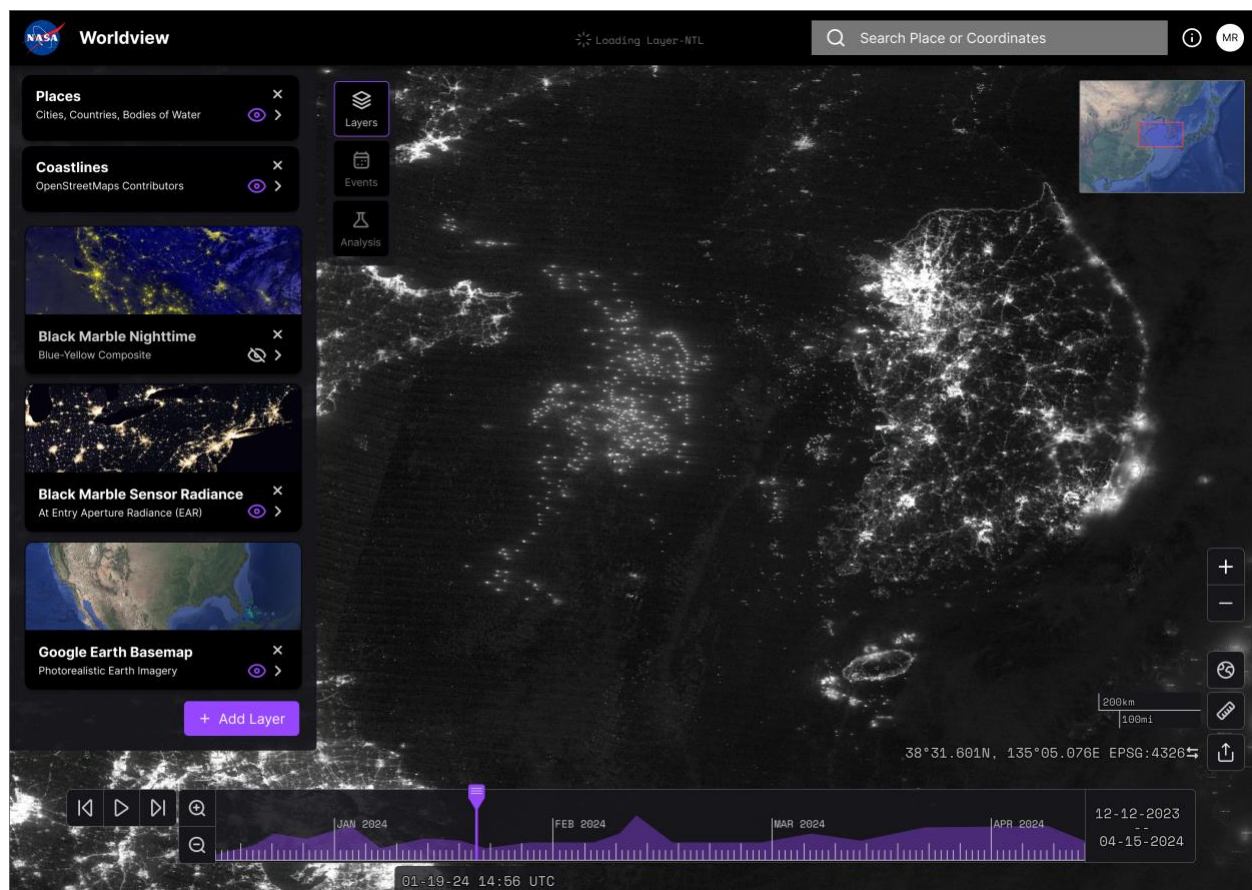

Figure 1: Sample of my prototype. The dashboard provides much more analysis power to the user!
**10/22:** Final documentation! I also presented the final UI of the dashboard at Saturday class. I provide an example of that dashboard seen in Figure 1.